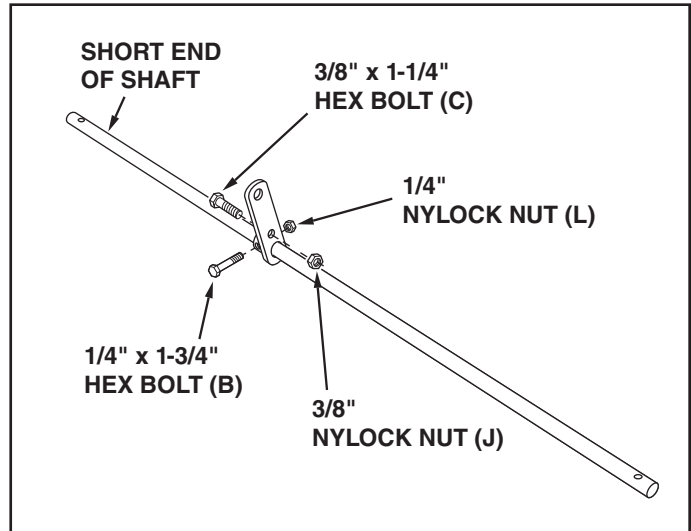
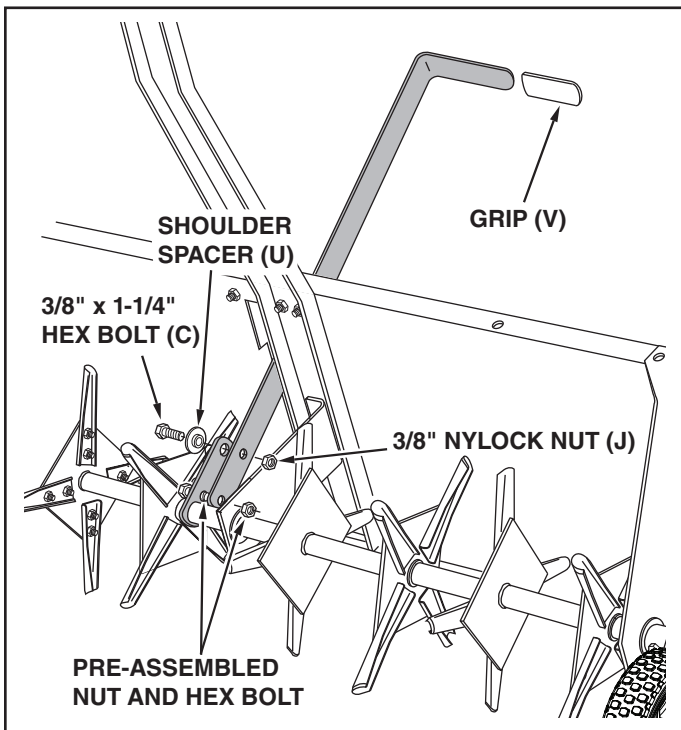

FIGURE 2
FIGURE 11
3. Assemble a wheel bracket to the middle hole in the shaft so that the hub of the bracket faces the short end of the shaft. Fasten the bracket to the shaft using a 1/4" x 1-3/4" hex bolt (B) and a 1/4" nylock nut (L). **Tighten.** See figure 2.
4. Pre-assemble a 3/8" x 1-1/4" hex bolt (C) and a 3/8" nylock nut (J) to the smaller hole in the wheel bracket. Insert the bolt from the hub side of the bracket. **Do not tighten till step 18.** See figure 2.
16. Place the lift handle through the slot in the tray. Fasten the lift handle to the smaller, inner hole in the middle wheel bracket using the bolt and nut which you pre-assembled earlier (figure 2). Fasten the lift handle to the larger, outer hole in the wheel bracket using a 3/8" x 1-1/4" hex bolt (C), the shoulder spacer (U), and a 3/8" nylock nut (J). **Tighten both nylock nuts.** See figure 11.
17. Push the grip (V) onto the lift handle. See figure 11.